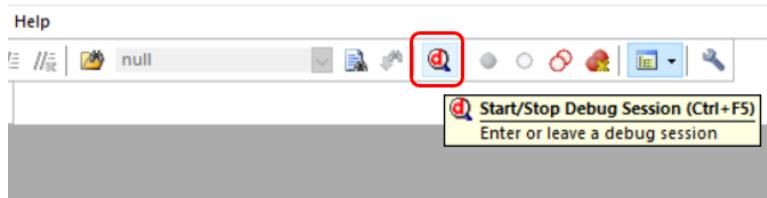

Figure 9.18: Keil IDE: Debug Button
2. Press the “debug” button to bring up the debugger interface (See Figure 9.18).
5. To exit the debugging session, press the “debug” button again (see Figure 9.18).